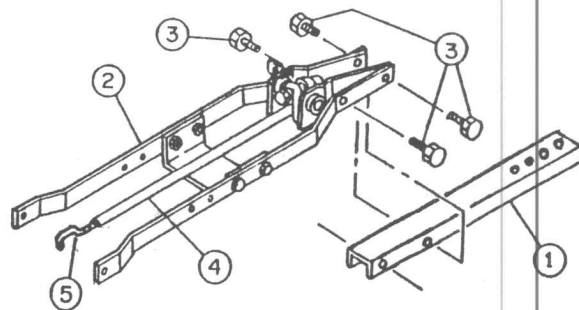

FIGURE 5
a) Install channel (fig. 5, item 1) between lift supports and subframe flatbars (item 2) using four 7/16 X 1 1/4" bolts (item 3), lockwashers and nuts. Do not tighten yet.
c) Set channel (fig. 5, item 1) in line with flatbars (item 2) and tighten bolts (item 3) securely.
f) Install adjustment rod (fig. 5, item 5), in push arm (item 4) and adjust overall length of push arm to 32 9/16".